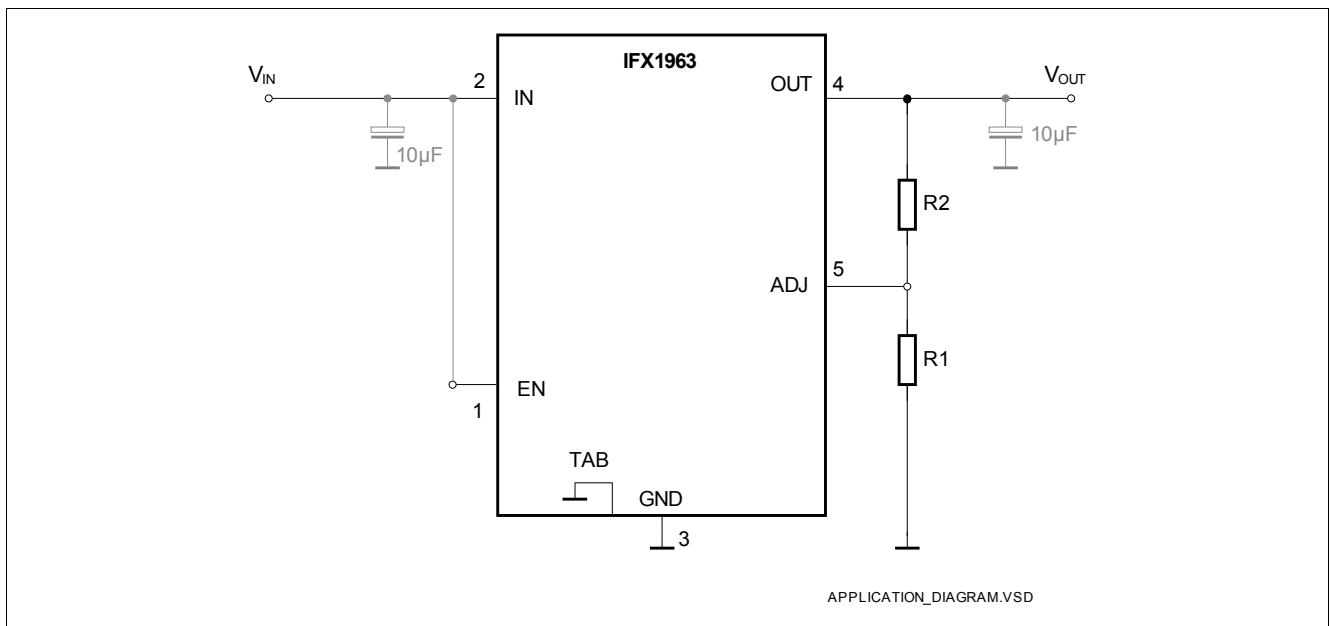

Figure 4 Application Diagram
The IFX1963 has an output voltage range of 1.21 V to $V_{IN} - V_{DR} < 20$ V. The output voltage is set by the ratio of two external resistors as shown in **Figure 4**. The device serves the output to maintain the voltage at the ADJ pin at 1.21 V referenced to ground. The current in R1 is then equal to $1.21 \text{ V} / R_1$ and the current in R2 is the current in R1 plus the ADJ pin bias current. The ADJ pin bias current, 1 µA at 25 °C, flows through R2 into the ADJ pin. The output voltage can be calculated using the formula in **Equation (1)**.